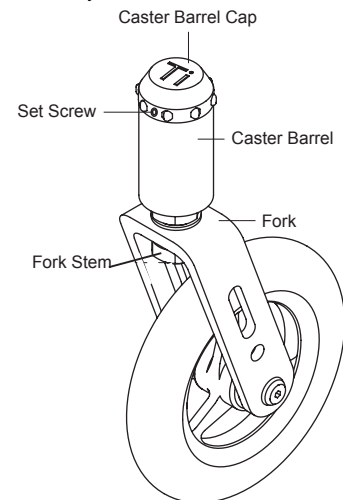

Figure 106
2. Loosen the set screw in the caster barrel cap. See Figure 106.